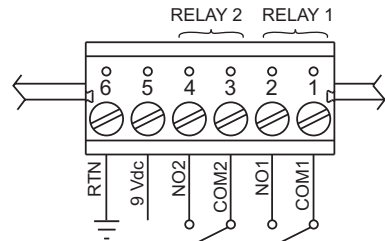

Figure 2.8 Relay Connections
It is recommended that you ground your unit by connecting a wire to the Return/Ground position of the relay connector, see **Figure 2.8**.
- To wire relay connector. (Refer to **Figure 2.8**)